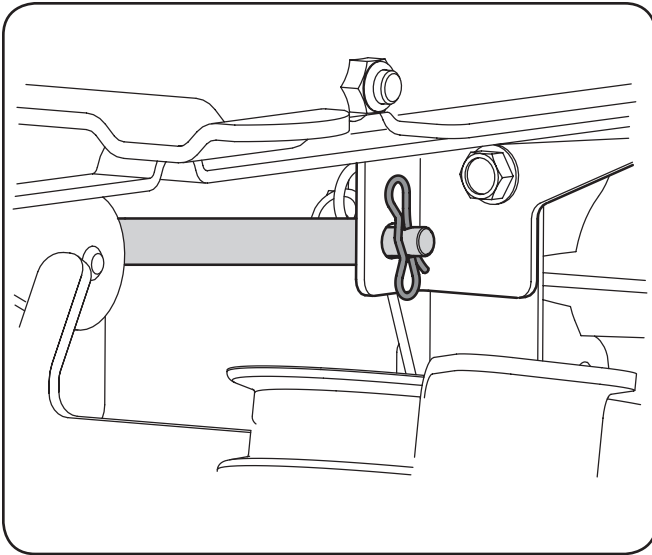

Figure 7-4
9. Remove the bow-tie cotter pin connecting the deck sway rod to the tractor frame. See Fig. 7-4.